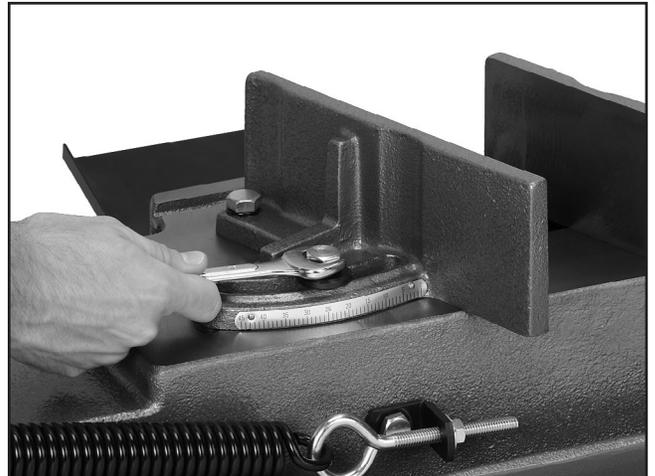

Figure 13. Setting vise angle.
1. Loosen the lock nut with a 12mm hex wrench or socket as shown in **Figure 13**.